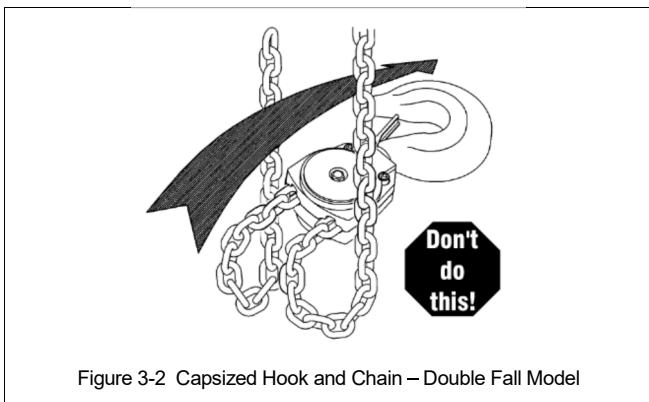

Figure 3-2 Capsized Hook and Chain – Double Fall Model
Note: Referencing Figure 3-2, the trolley wheel flange to wheel flange dimension (A) will be approximately 1/8" wider than the beam width (B). This will leave 1/16" clearance per side. There will also be a clearance between the inner spacers and the sideplate (C). This dimension will equal up to approximately 3/8".